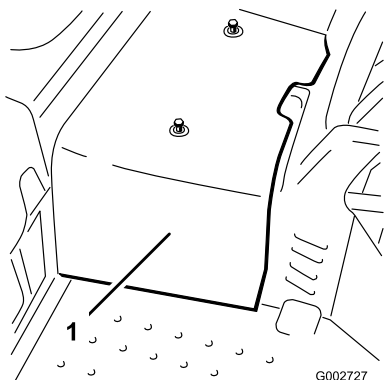

Figure 45
- Loosen the 2 screws securing the center shroud to the machine and remove the shroud (Figure 45).